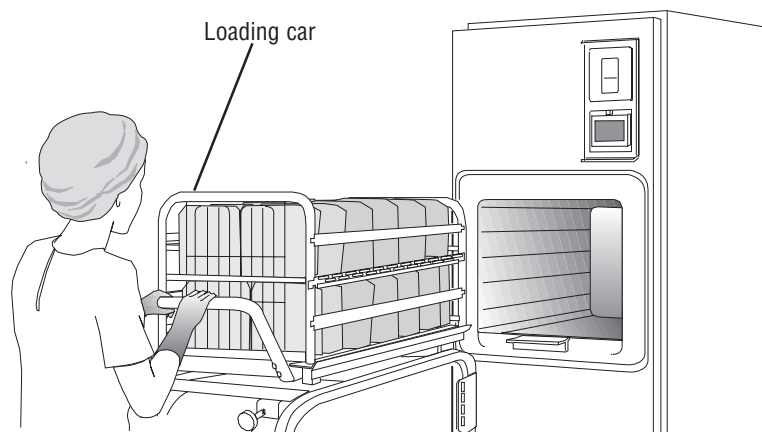

Figure 4-2. Align Loading Car with Chamber Opening
3. Align the front end of the transfer carriage with the end of the sterilizer. See Figure 4-2.